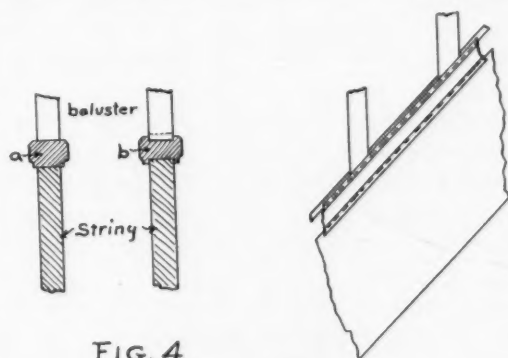

FIG. 4.
Now we will take up the stair which has one side open; that is, the string farthest from the wall, which is the face string. Fig. 4 shows a section and side elevation of this string. The treads and risers are housed the same as in the other stair, but the string must be made somewhat differently to fit the conditions. The strip (A) is placed upon the string to give it a better finish and may also be used to receive the lower ends of the balusters. These are beveled to fit the pitch of the string and fastened to the strip (A). A better method is shown in (B). The strip is grooved below to fit over the string, and above a groove is cut as wide as the balusters. These are set into the groove and a small strip as wide as the groove in (B), and a little thicker than the groove is deep, is fitted between the balusters. This gives a better finish to the joint between the string and balusters.